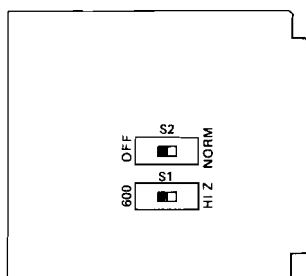

figure 2. Switch positions
3.06 Two option switches must be set before the 4018 or 4018A is placed in service. Locations of these switches are shown in figure 2. Option switch S1 selects the input impedance, which may be either